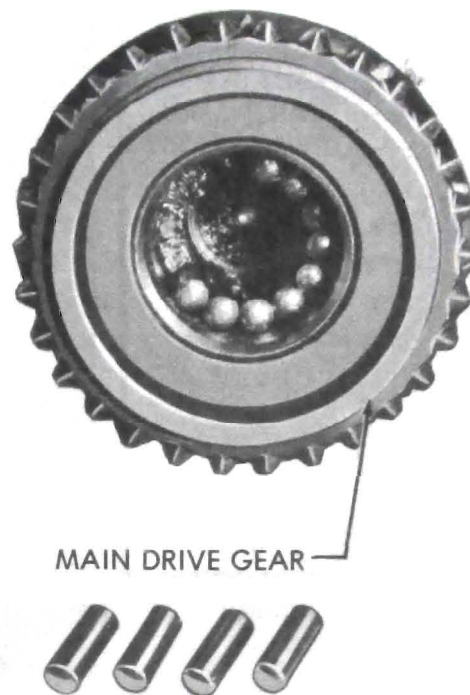

Figure 72-34 - Installing Needle Roller Bearings
5. Install fourteen (14) needle bearings in main drive gear, using heavy grease to hold the bearings in place. See Figure 72-34.